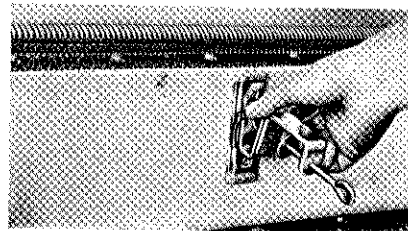

Fig. 7
Press upwards so that the head of screw (B) is in position (D) and fasten the knob (A). Fasten the knitter to the table by the tightening table clamps. It is essential that boss (E) fits snugly into aperture (F). (See Fig. 7, 8.)